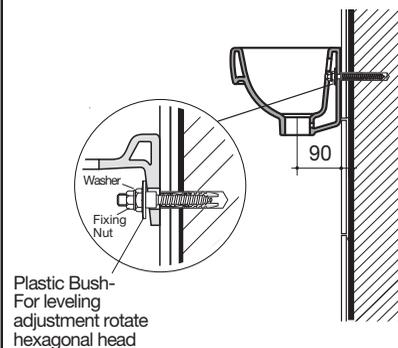

Fig. 3
- 3- Insert expansion fasteners into the drilled holes if required. Screw Fixing into the wall using the flats located on the screw section of the stud and spanner as detailed in **Fig. 3**. Allow 38mm of thread to protrude from the finished wall.